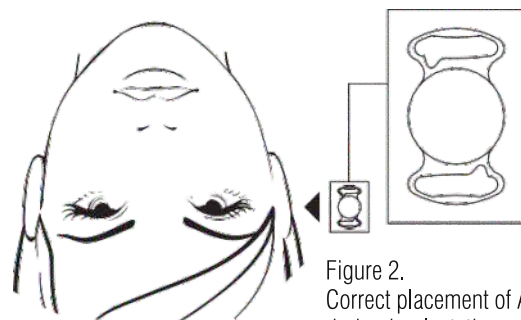

Figure 2. Correct placement of Aquamarine IOL during implantation
- 5.10 In the capsular bag, the posterior aspheric optical surface of the lens with the sharp angle should adhere to the posterior capsule of the eye's lens. To achieve this, during insertion the lens should be positioned as follows: the haptic element, directed during the insertion of IOL to the patient's nose, should be opened to the left, the haptic element, directed to the patient's forehead, should be opened to the right. (see Figure 2).